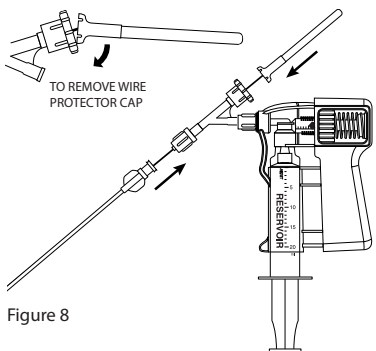

Figure 8
8. Continue to activate the Squirt. This will ensure that a liquid meniscus is at the distal segment of the hemostasis valve. Attach the rotating adapter of the hemostasis valve to the luer lock connector on the Fountain Infusion Catheter, making sure that a liquid-to-liquid connection is established. (See Figure 8)
The wire protector cap can then be placed over the proximal portion of the occluding wire and snapped into the back end cap of the hemostasis valve (See Figure 8).